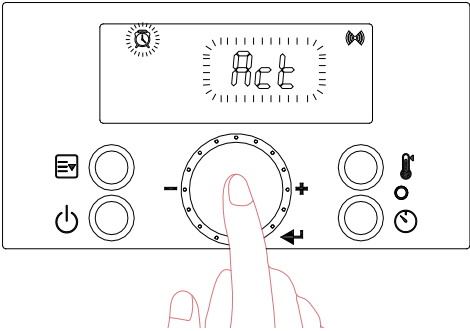

Figure 41 – Setting the Recirculation Timer Type
b. Press the  button at the “Act” screen to select the Recirculation Timer type. See Figure 41. Turn the dial  to choose between “Auto” or “Pro9”.
- NOTE: If “Auto” is selected, the water heater will monitor and record hot water usage patterns over a period of seven (7) days. After this learning period, the water heater will use the usage pattern to automatically cycle the pump and preheat the water.